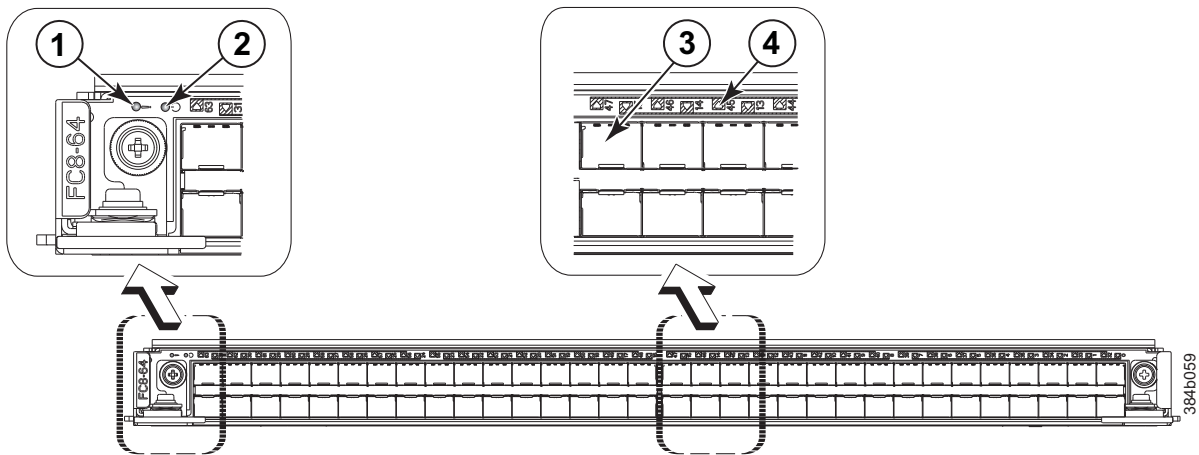

Figure 21. FC8-64 port blade
- Figure 21 on page 47 illustrates the FC8-64 port blade